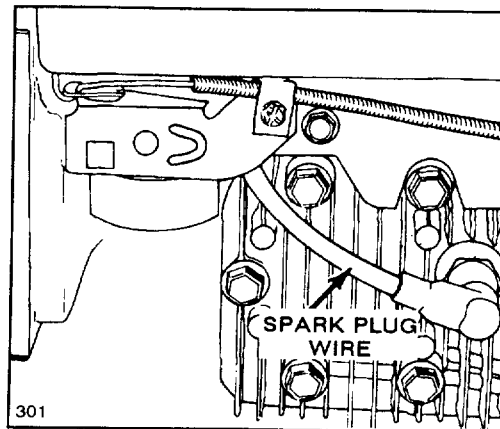

Figure 20
2. Push spark plug wire onto spark plug (Fig. 20).
1. Stop engine and pull wire off spark plug (Fig. 20).
1. Stop engine and wait for engine to cool. Pull wire off spark plug (Fig. 20).